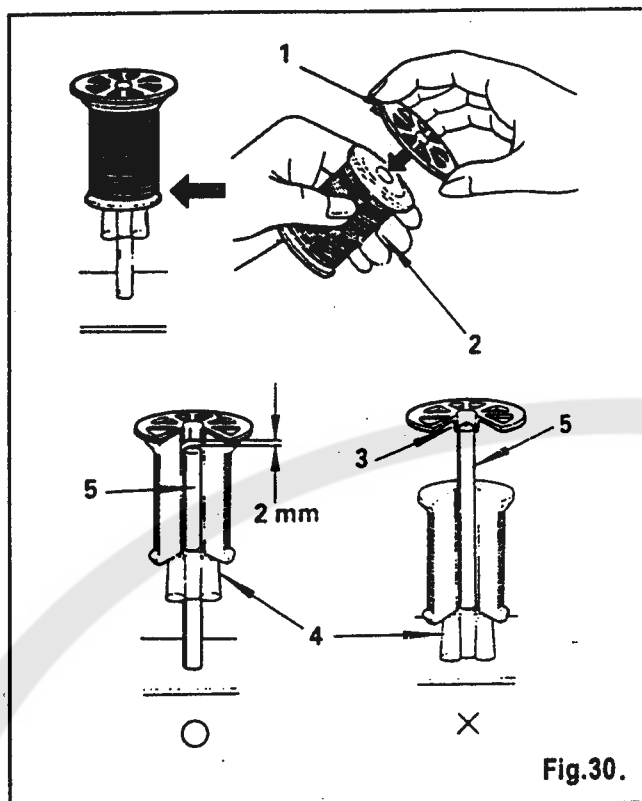

Fig.30.
When using a reel type thread spool, fit the spool cap (1) supplied with the machine onto the thread spool (2). Fig.30.
Set height of spool rest (4) so there is approximately 2mm clearance between top end of spool pin (5) and the tip of the slotted spigot (3) of the spool cap. (See Fig.30)
The spool cap should never be fitted on the spool pin. Forcing it onto the spool pin may result in breaking the slotted spigot of the spool cap. (See Fig.30)